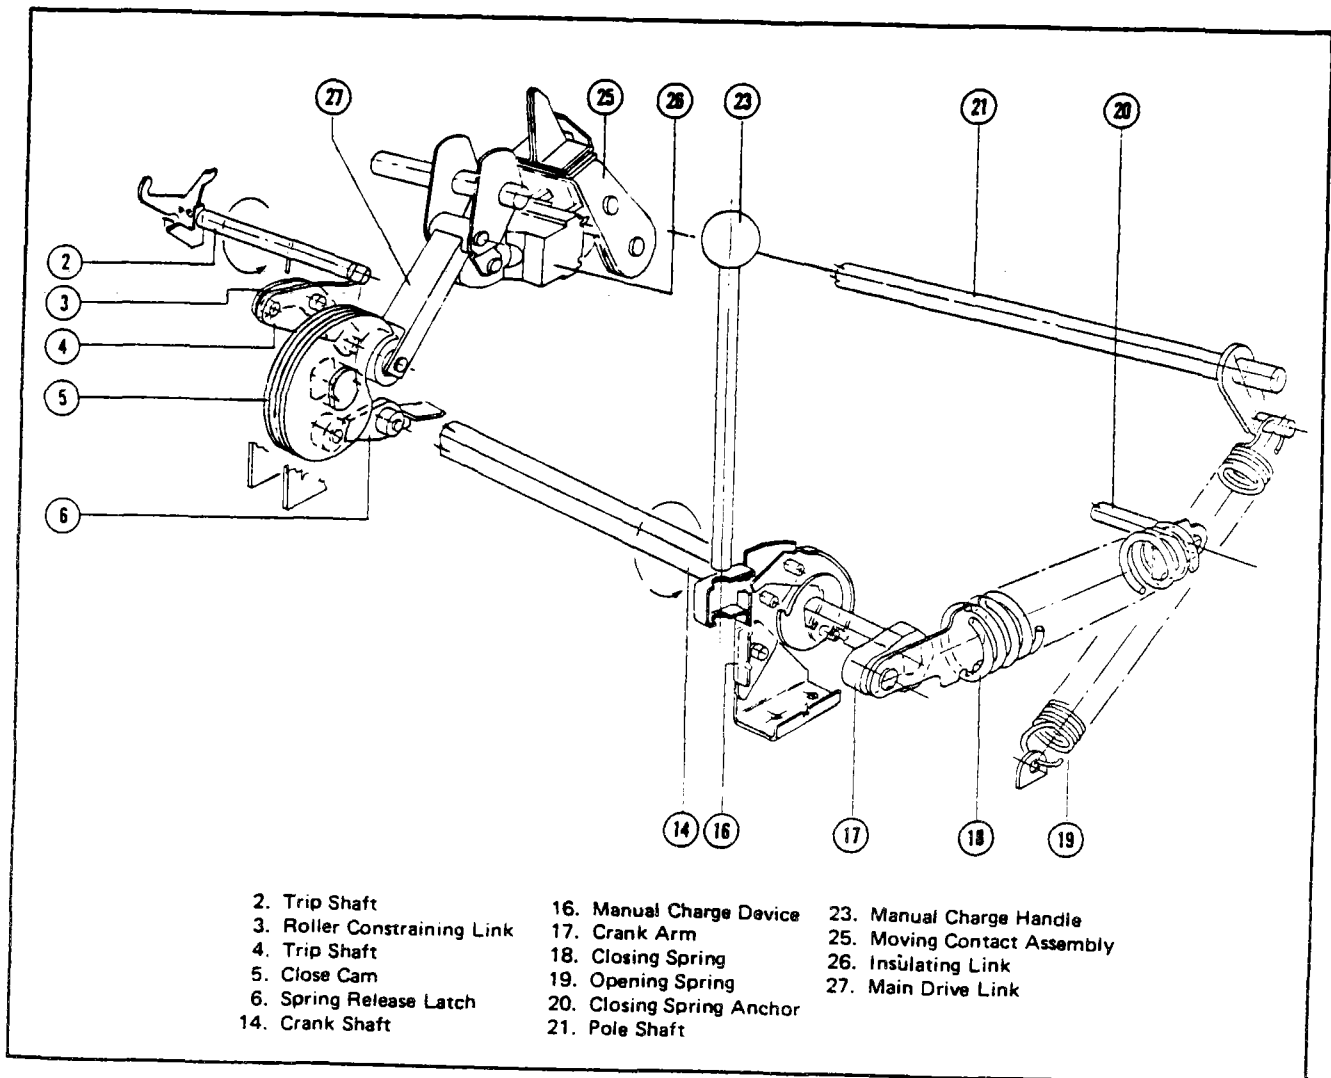

Fig. 20 Principal Parts in a Manually Charged Spring Operated Mechanism.
Figure 20 is another isometric diagram to illustrate the mechanism in a manually operated breaker. For sake of clarity, the actuator has been omitted.
b) Breaker Open - Springs Charged (Spring Charged Position Corresponding To This Closing Cam Position Shown in Fig. 20).